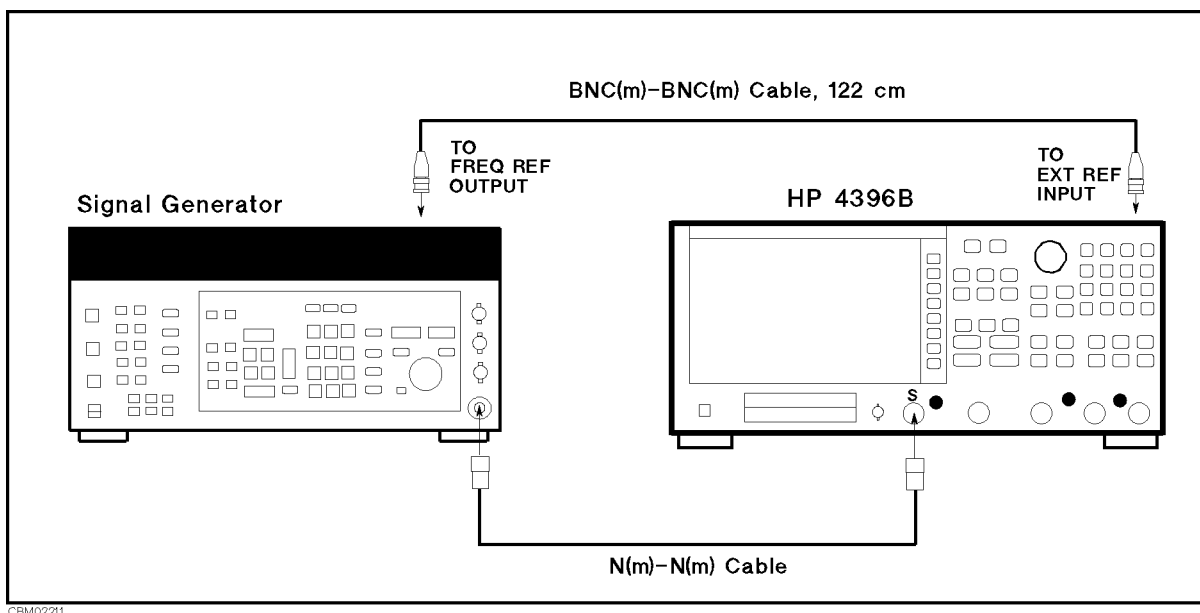

Figure 2-25. Noise Sidebands Test Setup
2. Connect the test equipment as shown in Figure 2-25.
Note	Connect the signal generator's 10 MHz frequency reference output to the 4396B EXT REF Input on the rear panel as shown in Figure 2-25. With this configuration, both the signal generator and the 4396B are phase locked to the same reference frequency to obtain a stable measurement.